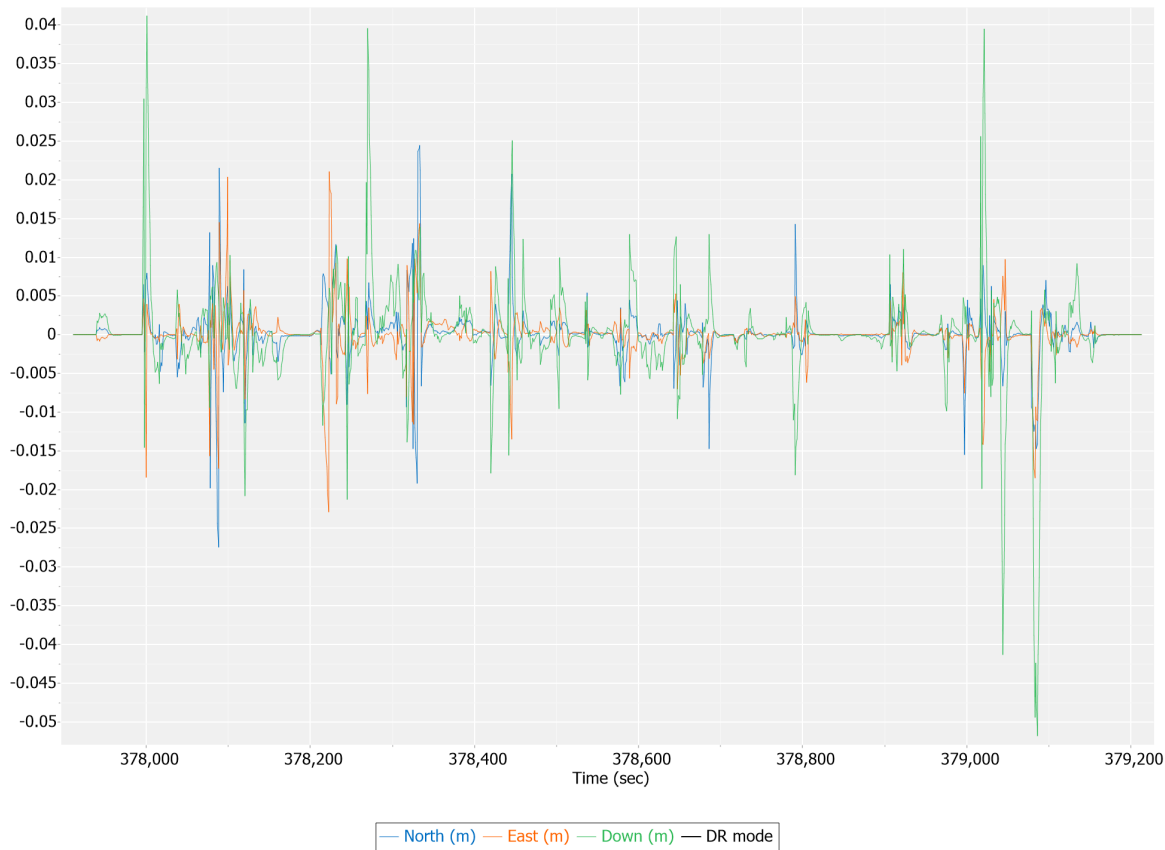

Fig 11: SBET IAKAR Separation
- *Provides the difference between forward and reverse processing in time (Fig 11)*